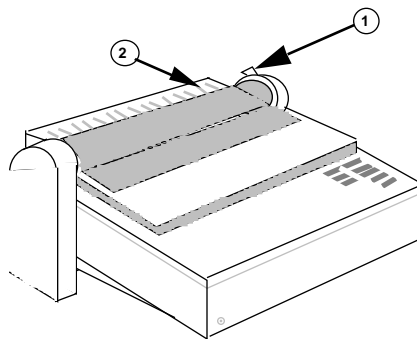

FIGURE 1
2. Pull the paper release lever forward (Figure 1, #1).
3. Lift up and remove the tractor cover (Figure 1, #2).